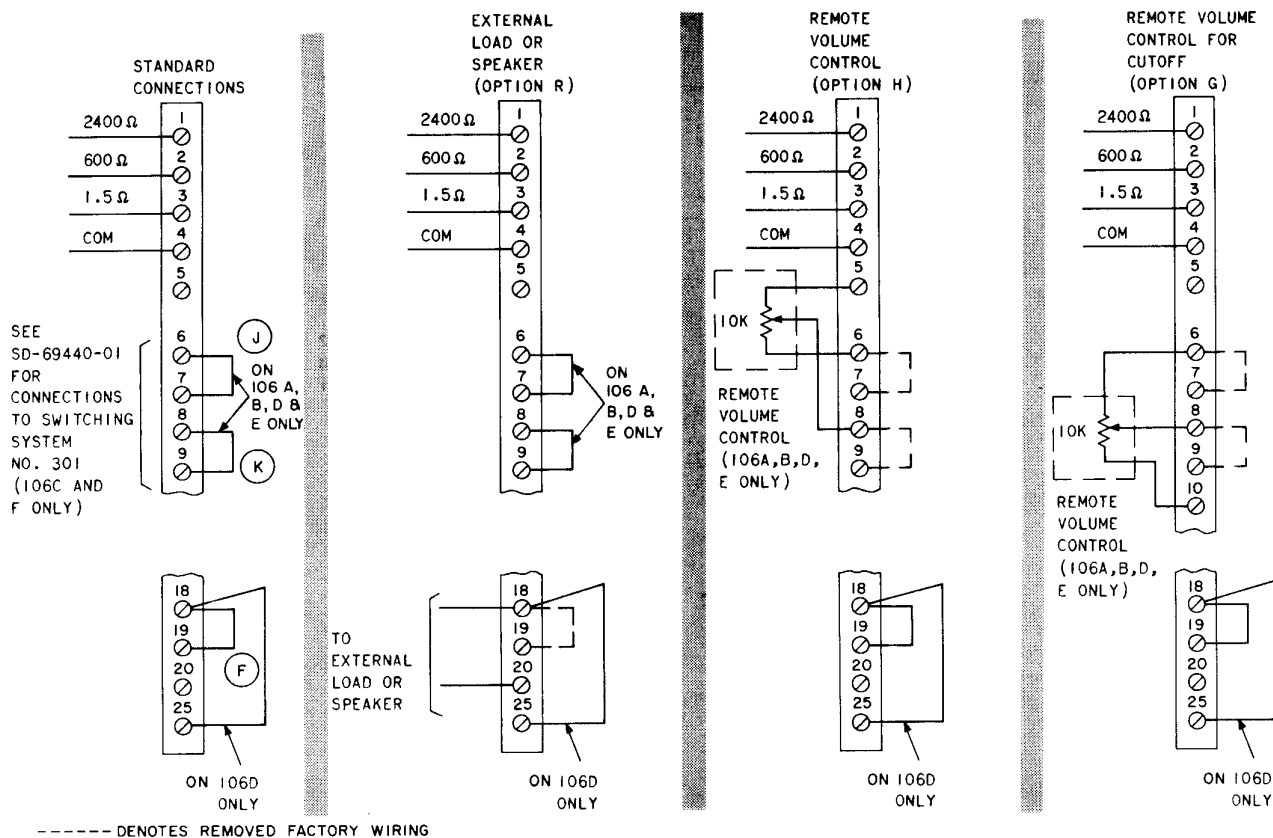

Fig. 8—Connections for 106-Type Loudspeaker Set—Feature Options
- (c) **External Speaker (Option R, Internal Speaker Disabled)—All 106-Type Sets:** All sets are factory-wired with the internal speaker connected for operation (option F). If an external speaker is to be used, the internal speaker must be disabled. Remove strap between terminals 18 and 19. Connect external speaker to terminals 18 and 20 (Fig. 8).
- (f) **Remote Volume Control (Option H, Front Volume Control Disabled)—106A and B (MD) D and E:** To use a remote volume control, remove straps from between terminals 6 and 7, and 8 and 9. Connect the lead from the movable contact of the remote volume control to terminal 8. Connect the other two leads to terminals 5 and 6 for desired direction of rotation (Fig. 8).
- (g) **Remote Volume Control Arranged to Cut Off All Audio at Minimum Setting (Option G)—106A and B (MD), D and E:** To use remote cutoff, remove straps from between terminals 6 and 7, and 8 and 9. Connect lead from movable contact of remote volume control to terminal 8. Connect the other two leads to terminals 6 and 10 for desired direction of rotation (Fig. 8).